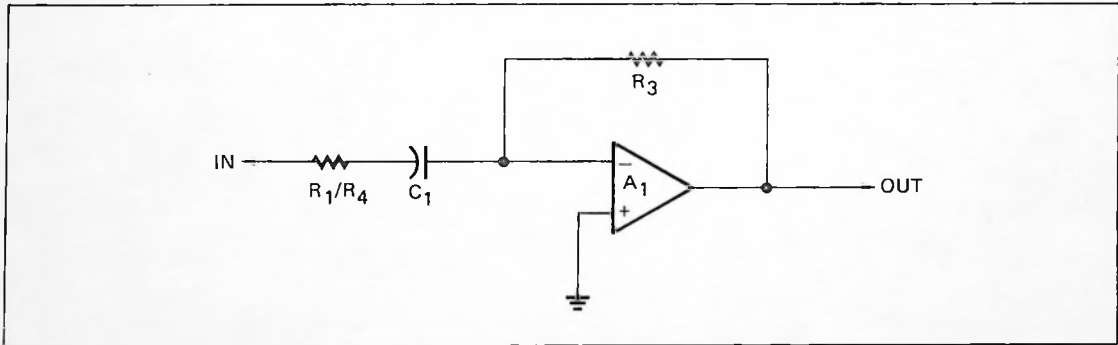

Figure A-4. Filter Section "D," First-Order Highpass.
- d. First-order highpass section "D" (Figure A-4).